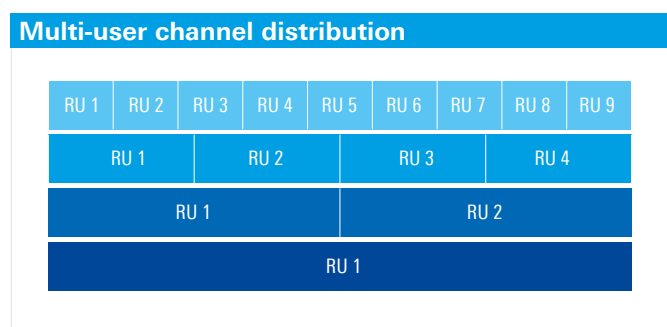

Fig. 1: In multi-user mode, a 20 MHz channel (for example) is divided into resource units (RU) that can be combined in different sizes.
transmit only if the channel is not in use for a specified wait time. This method is also known as listen-before-talk (LBT). However, there is still a risk of the transmission colliding with the transmission of another concurrently waiting station that also thought the channel was free. A collision leads to data loss, which leads to a repetition of the procedure and a new transmission. The more WLAN stations involved, the more drastic the increase in the wait times and the lower the efficiency of the available radio channel. The orthogonal frequency division multiplexing access (OFDMA) method, which with 802.11ax can also be used for WLAN, provides a significant improvement. The available bandwidth is divided into resource units (RU) that the access point dynamically assigns to its allocated stations on demand (Fig. 1).